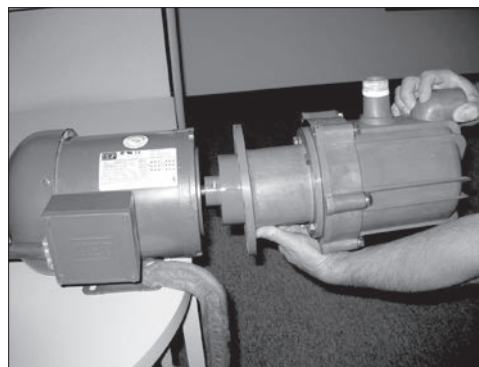

Figure 10
2. Securely clamp the motor to the bench. Remove the (4) 3/8" motor adapter bolts, lock washers and flat
washers (items 28, 29 & 30) securing the pump to the motor. See figure 10.